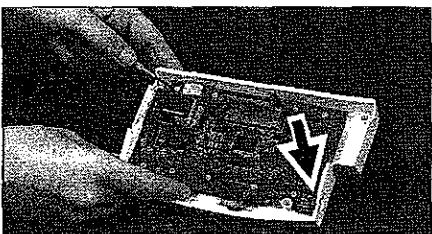

Figure 19
3. Remove the four (4) 4-40x1/4" Phillips pan-head screws which attach the display PCB/LCD assembly to the bezel top. Separate the display PCB/LCD assembly from the bezel top by gently pulling up on the display PCB corners as illustrated in Figure 19). Take care to retain the two o-rings on the temperature jack of the display PCB (arrow in Figure 19).